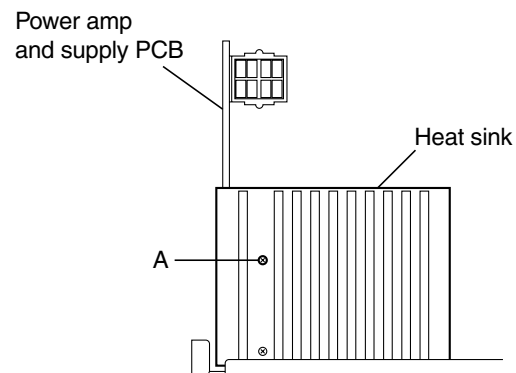

Fig.2
■ Replacing the power IC (See Fig.2 and 3)